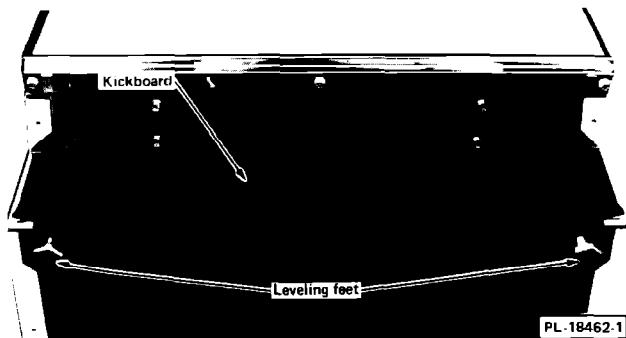

Fig. 3
- Level the compactor by turning the leveling feet (Fig. 3) as necessary. A minimum 1/4" (6 mm) clearance MUST BE MAINTAINED between compactor top and counter top for service accessibility.
For a few special installations where the leveling feet (Fig. 3) have been set to the low screwed-in position, and/or if the compactor is mounted on an extra thick shag or similar type carpet, the rubber kickboard molding (Fig. 3) might drag on the carpet when the drawer is opened. Should this happen, simply remove the kickboard (Fig. 3) and cut the molding (Fig. 3) with a pair of scissors to suit your installation.